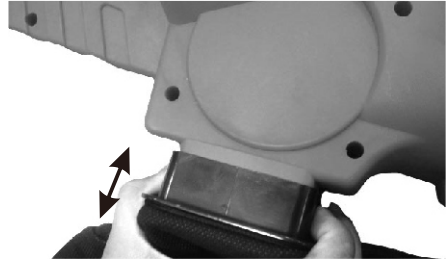

Fig. 5
- Insert the clip joint of the collection bag into the ejection pipe at the motor housing. (Fig. 5)